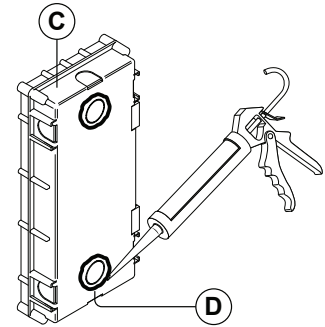

Fig. 60
⚠ Before fitting the flush box (C) into the wall it is recommended that in order to prevent water ingress a silicon sealant is used between the wall and the flush box and around the flush box holes (D) (Fig.60);